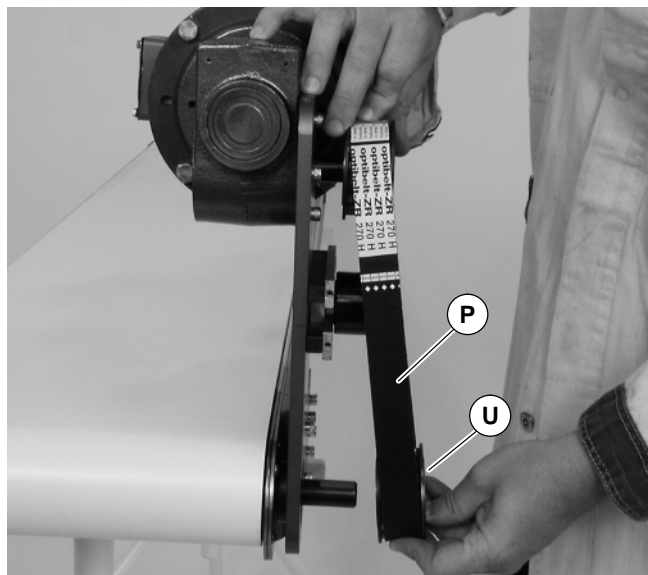

Figure 12
3. Remove timing belt (P of Figure 12).
NOTE: If timing belt does not slide over pulley flange, loosen taper-lock screws in driven pulley hub (U of Figure 12) and remove pulley with belt (P). For re-installation, see steps 6 and 7 on page 6.